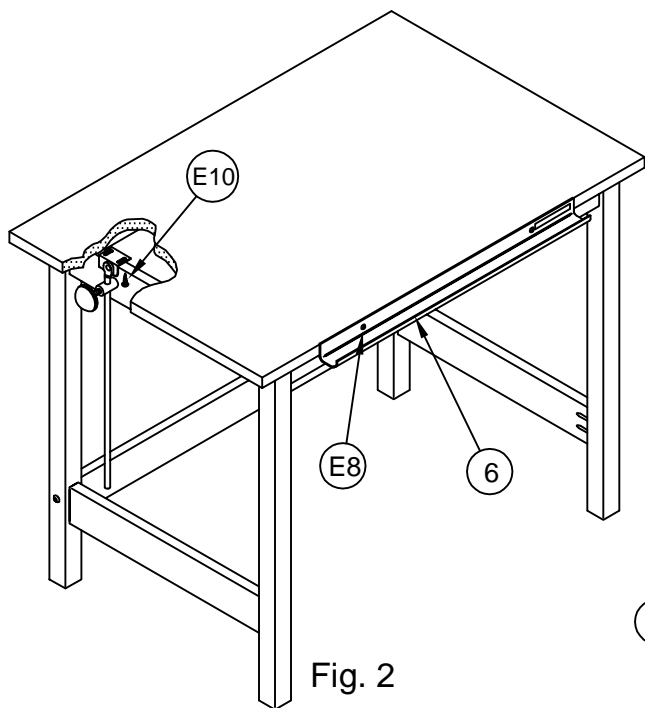

Fig. 2
8. Attach Tilt Rod Assemblies (2) to top with Screws (E10) per Fig. 2.
9. Attach Pencil Trough (6) with Screws (E8) at desired position per Fig. 2. (OPTIONAL if using 8187 Light Top)